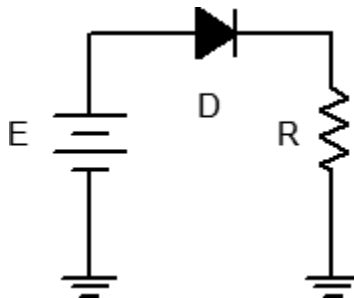
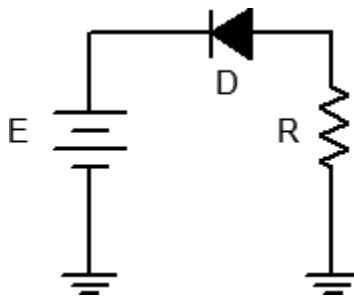

Figure 1
Figure 2
1. Consider the circuit of Figure 1 using  $R = 1\text{ k}\Omega$ . For any positive value of  $E$ , the diode should be forward biased. Once  $E$  exceeds the knee voltage, all of  $E$  (minus approximately 0.7 volts) drops across  $R$ . Thus, as  $E$  increases, so does the diode current.
2. Build the circuit of Figure 1 using  $R = 1\text{ k}\Omega$ . Set  $E$  to 0 volts and measure both the diode's voltage and current and record the results in Table 1. Remember, voltage is measured across a device (parallel) while current is measured through it (series). Repeat this process for the remaining source voltages listed.
4. Consider the circuit of Figure 2 using  $R = 1\text{ k}\Omega$ . For any positive value of  $E$ , the diode should be reversed biased. In this case, the diode should always behave like an open switch and thus no current should flow. If no current flows, the voltage across  $R$  should be zero, and thus the diode voltage should be equal to the applied source voltage. Note that the diode's voltage polarity is negative with respect to that of Figure 1.
5. Build the circuit of Figure 2 using  $R = 1\text{ k}\Omega$ . Set  $E$  to 0 volts and measure both the diode's voltage and current and record the results in Table 2. Repeat this process for the remaining source voltages listed.